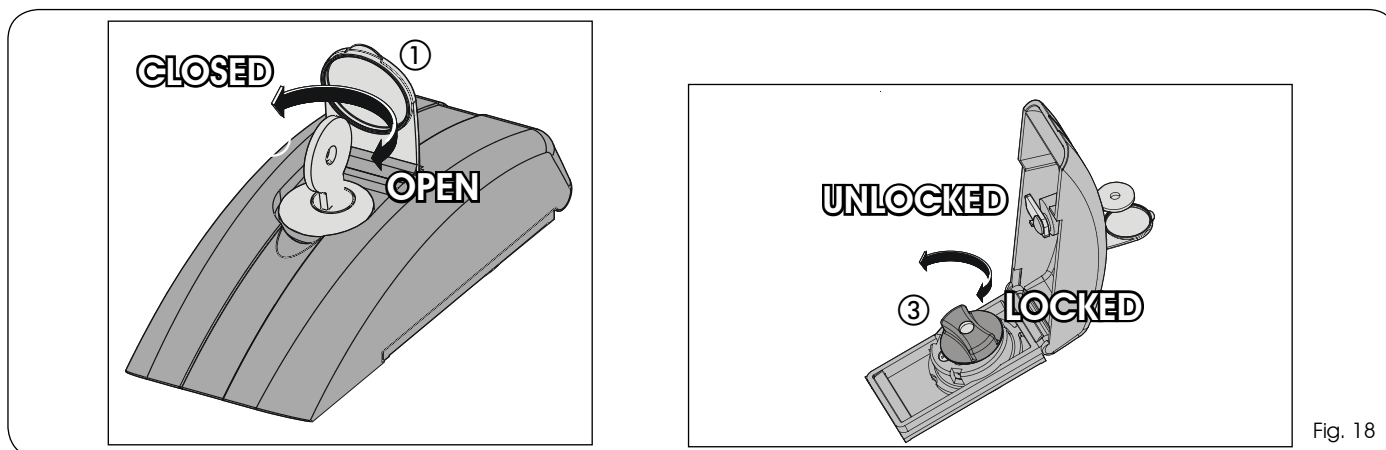

Fig. 18
1) Lift the protection lid (Fig. 18, re. ①) and insert the key in the lock (Fig. 18, re. ②).
2) Turn the key 90° clockwise to open the cover and lift it.
3) Turn the release knob (Fig. 18, re. ③) anticlockwise until it stops.